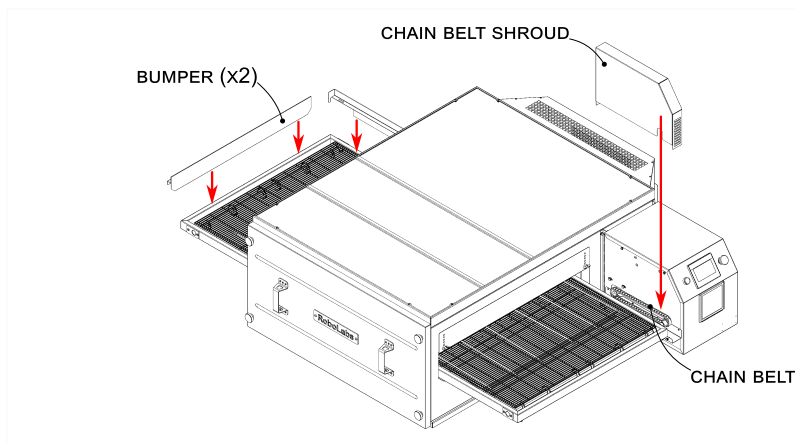

Figure 5
- Put **chain belt** on conveyor's sprocket and other sprocket, mounted on the shaft protruding from electric panel, see Fig. 5.